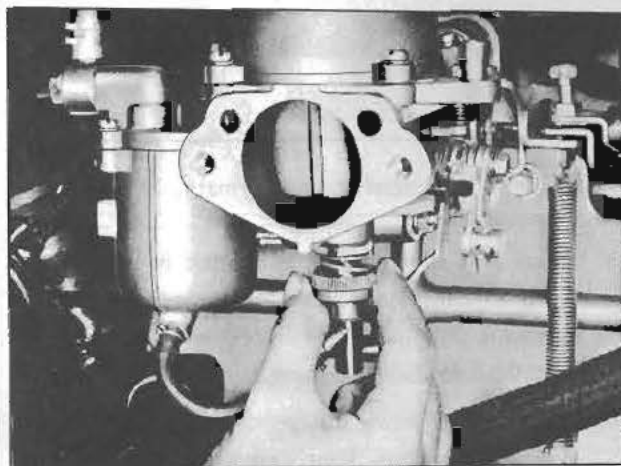

Fig. EF-38 Idle adjust nut
3. Tighten both F and R carburetor's idling adjusting nuts in the upper direction once, and gradually back them off. When turned approximately on two and half turns, the nut will contact with the stopper. Return the idling adjusting nut from this position approximately half of a turn. (Refer Figure EF-38)	a. Set both F and R carburetor idling adjusting nuts to their standard positions. Under this conditions, dimension "A" (between jet bridge nozzle head) is approximately 2.2 mm (0.0866 in). Refer to Adjustment of "A" Dimension.